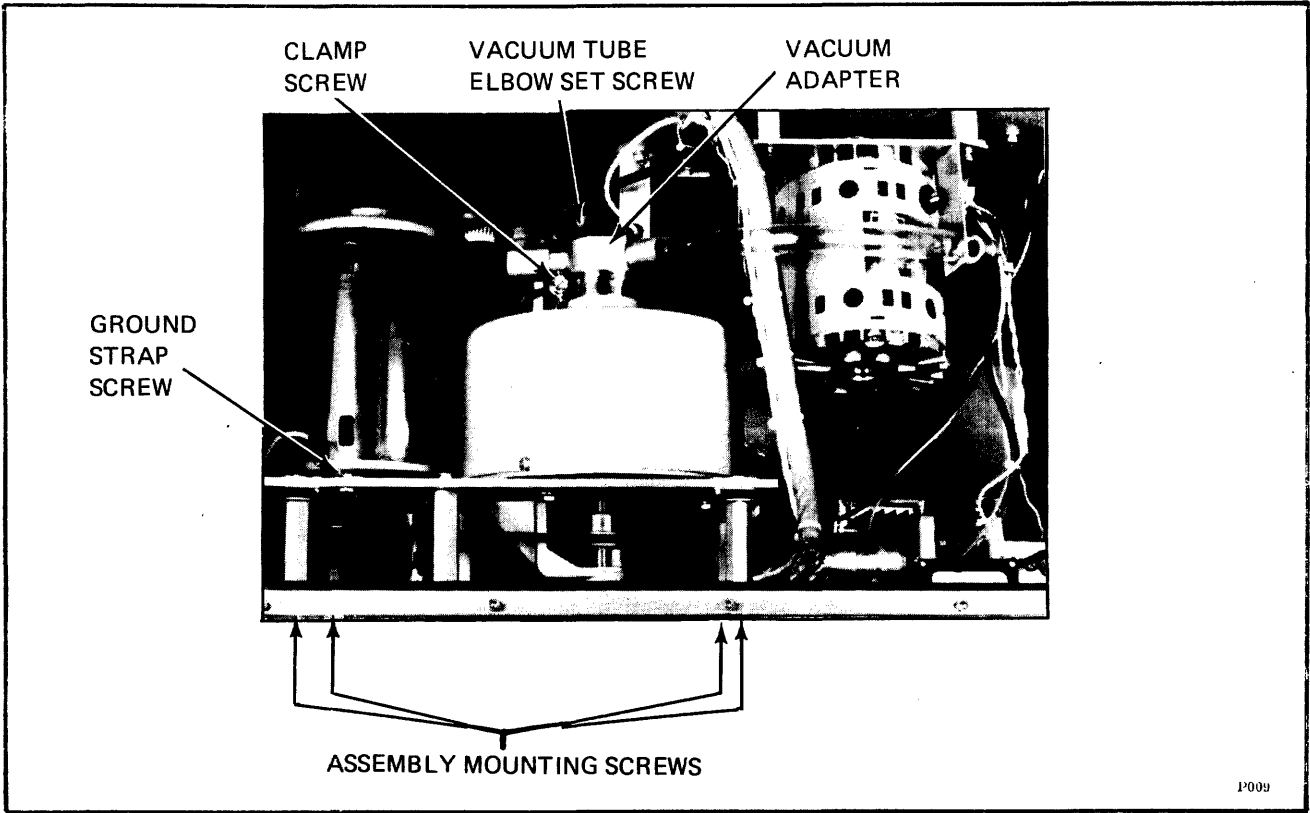

Figure 9-9. Removal of Vacuum Pump Assembly
- f. Loosen set screw in vacuum tube elbow and pull elbow downward, Figure 9-9.
- i. Remove mounting screws holding vacuum pump assembly, Figure 9-9.
- 7. Loosen vacuum tube elbow set screw, Figure 9-9. Slide elbow off vacuum tube and move to left.